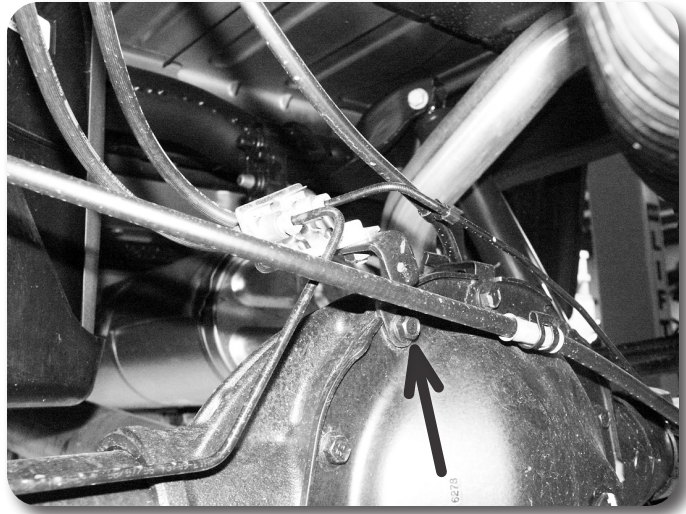

Figure 32
4. Disconnect the rear brake line bracket from the top of the differential **Figure 32**. Save hardware.